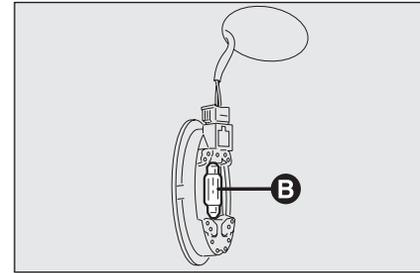

fig. 39
- replace the bulb **B-fig. 39** releasing it from the side contacts making sure that the new bulb is correctly clamped between the contacts;